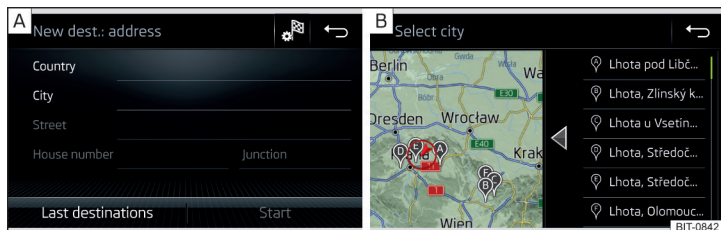

Fig. 172 Enter destination using the address: Main menu / List of visited destinations
- › Enter the destination address and then confirm » Fig. 172 - **A**.
Depending on the number of places visited, a map with a list of visited places can be displayed automatically » Fig. 172 - **B**.